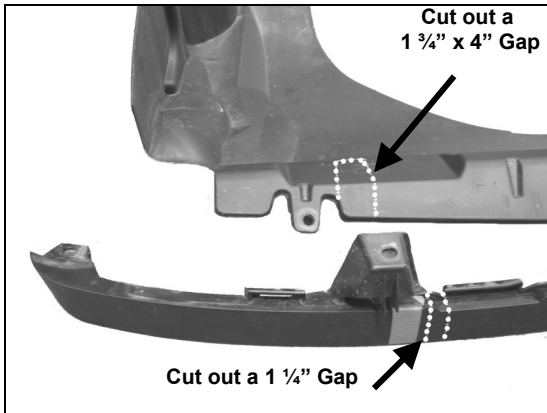

Figure 1
- Using a hacksaw cut out 1 ¼" gap on each marked location on the air dam shown in **Figure 1 & 2**. **NOTE:** The air dam will be in three pieces, when re-installing.
- Cut out a 1 ¾" x 4" gap on each marked location on both plastic shrouds as shown in **Figure 1 & 2**. Once the air dam and plastic shroud are both cut, set them aside.